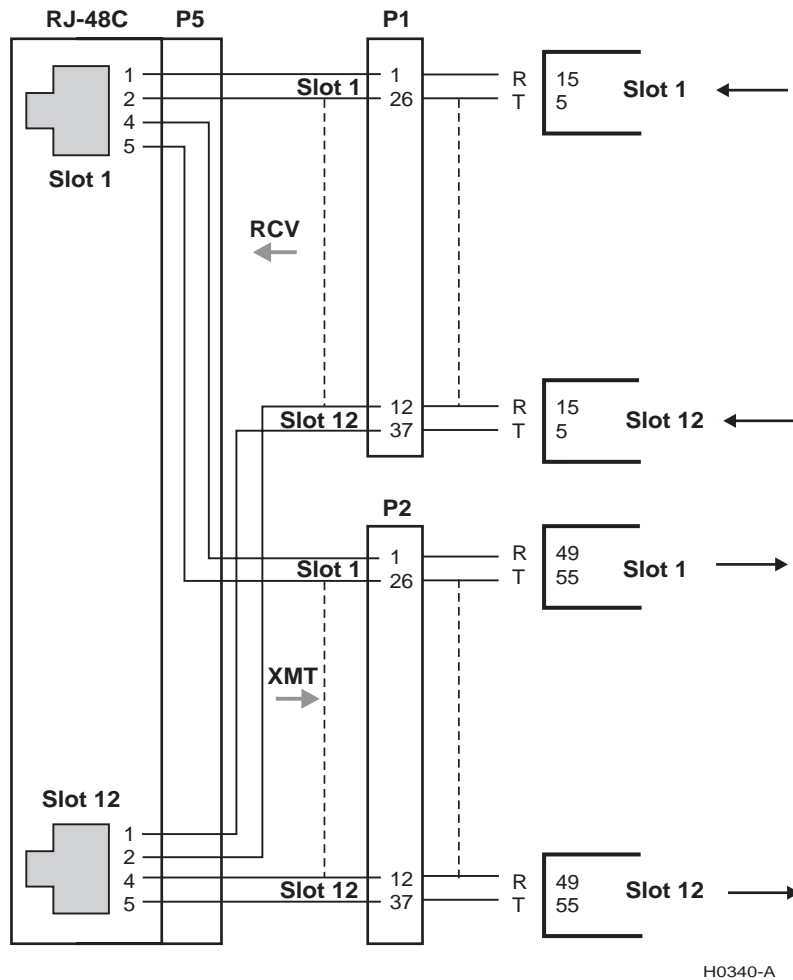

Figure 10. DS1, G.703 RJ48C Harmonic Cable Interface Assembly (Part Number 150-2201-01)
- RJ48C (Part Number 150-2201-01), shown in Figure 10 on page 14